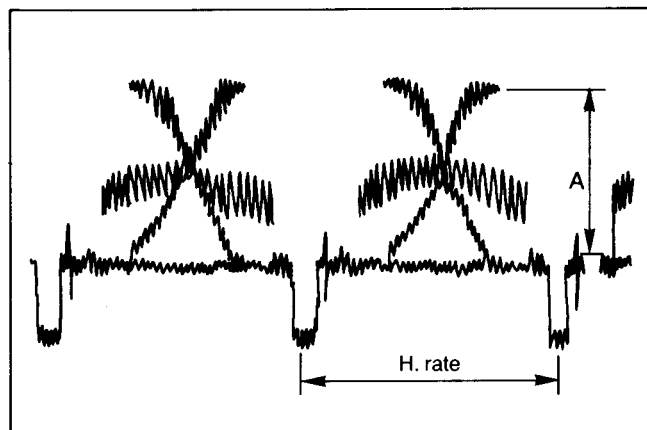

Fig. C12
- (4) Adjust the YH Level Control (VR302) so that the signal level "A" is $1.4V \pm 0.06V_{p-p}$ as shown in Fig. C12.
- (5) Disconnect the jumper wire between TP4, TP5 and TP6.